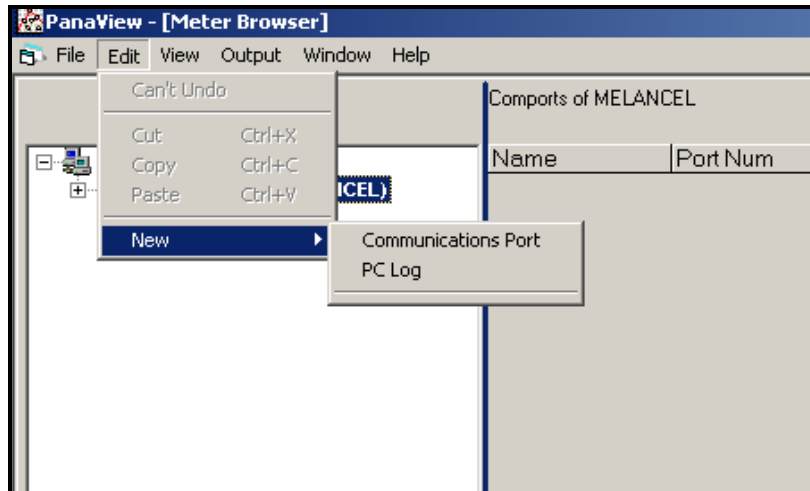

Figure 15: The Edit Menu
3. Click on the "New" menu option to select it, and a submenu opens with two choices on it (see Figure 15).